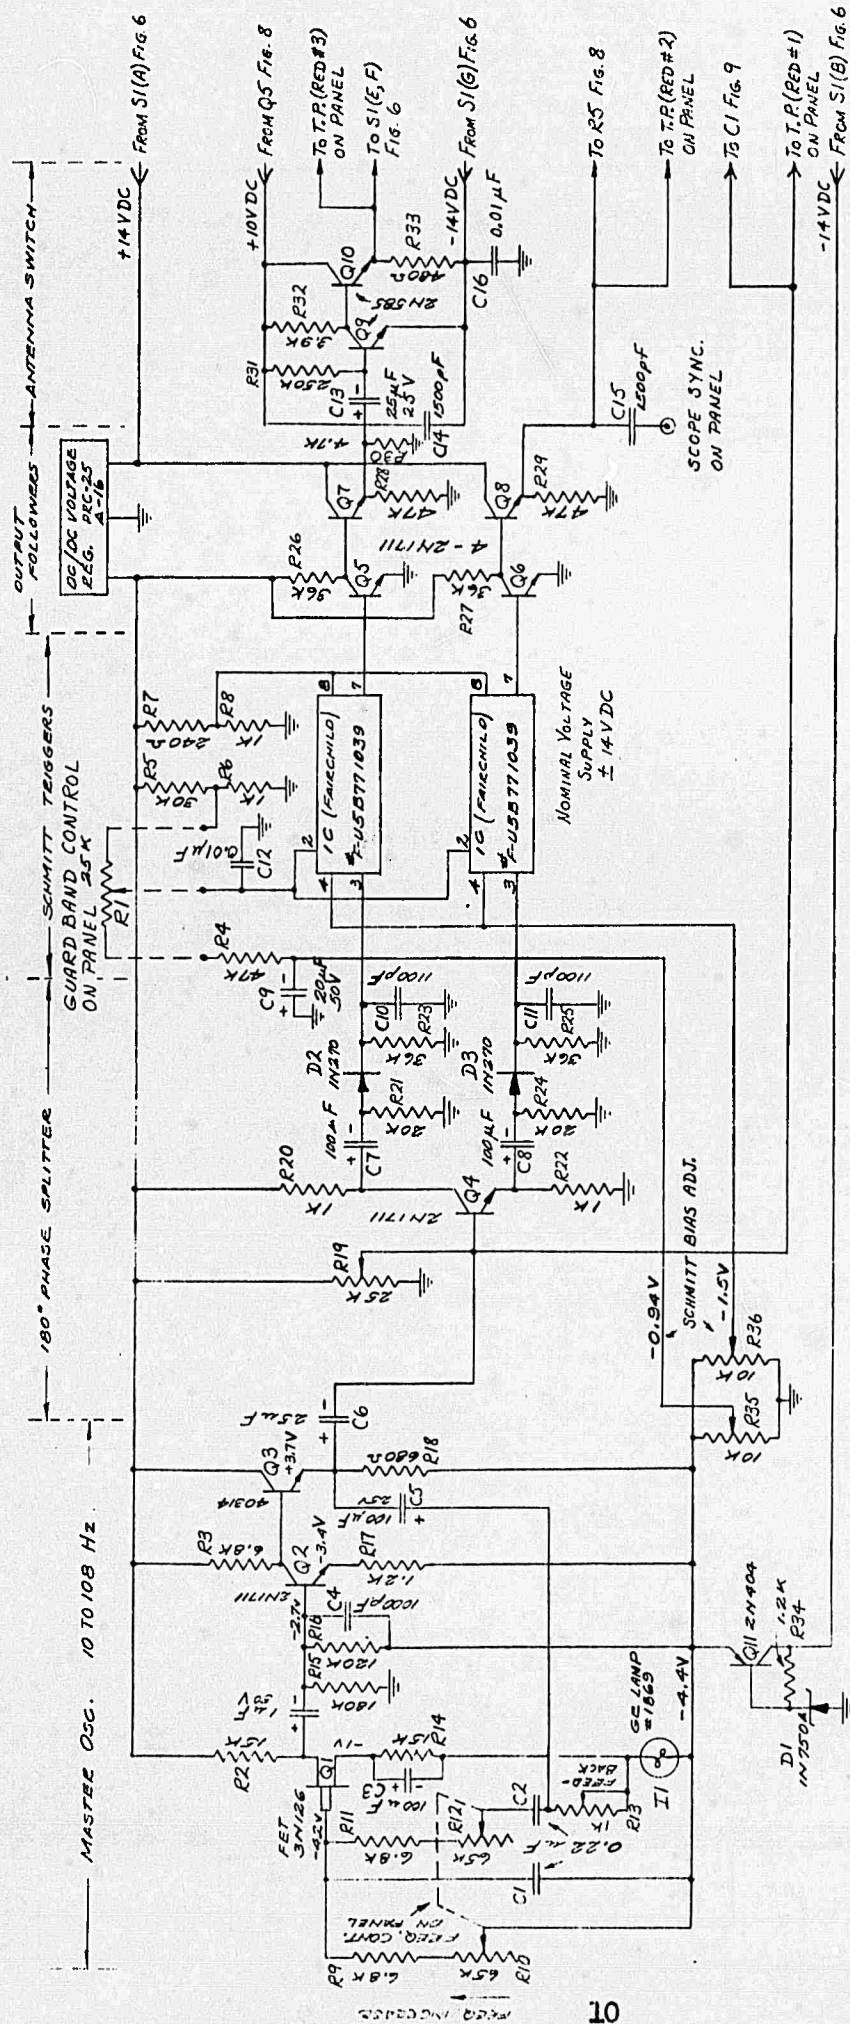

Figure 7. Master-Oscillator (Board No. 1), Schematic Diagram
1. GUARD BAND Control (R1, Fig. 7)
2. SCOPE SYNC. Connector (Fig. 7)
3. FREQ. Control (R10, R12, Fig. 7)
18. Red Test Points\* (Fig. 7)
##### 3.1.1 Master Waveform Generator (See Fig. 7.)
An emitter-follower (Q11) output circuit provides sufficient power to the lamp circuit, although very little power is required to drive the circuits following the oscillator. The lamp is operated at a filament temperature where the resistance changes quite rapidly with applied current. Thus, the amount of negative feedback (which is proportional to the AC voltage drop across the lamp) is automatically adjusted until a new balance is achieved. The actual level of the oscillator output is not critical as long as it is steady, and can be adjusted by a trimpot (R13), as shown in Fig. 7. A test point on the panel (RED #1) can be used to check oscillator output level and waveform.
Also shown in Fig. 7 is the driver circuit (Q9, Q10) for both the Antenna Switch and the Retransmitter power control. The circuit, a simple amplifier and power follower, is needed because greater voltage swing and power are required to drive the Antenna Switch than can be obtained readily from the trigger/follower circuits. This because diode turn-on current in excess of the RF peak must be supplied when the Repeater is operating in the Retransmit mode, so as to prevent opening the Antenna Switch during the RF cycle.
#1 - Level should be about 1-1/2 V on AC Meter (4 V p-p on scope). Several seconds are needed for automatic regulator to settle down, after a disturbance, such as frequency change. Very steady indication during normal operation, with a very "clean" wave. Level is adjustable by means of black trimpot Feedback Control on Board No. 1 (R13, Fig. 7).